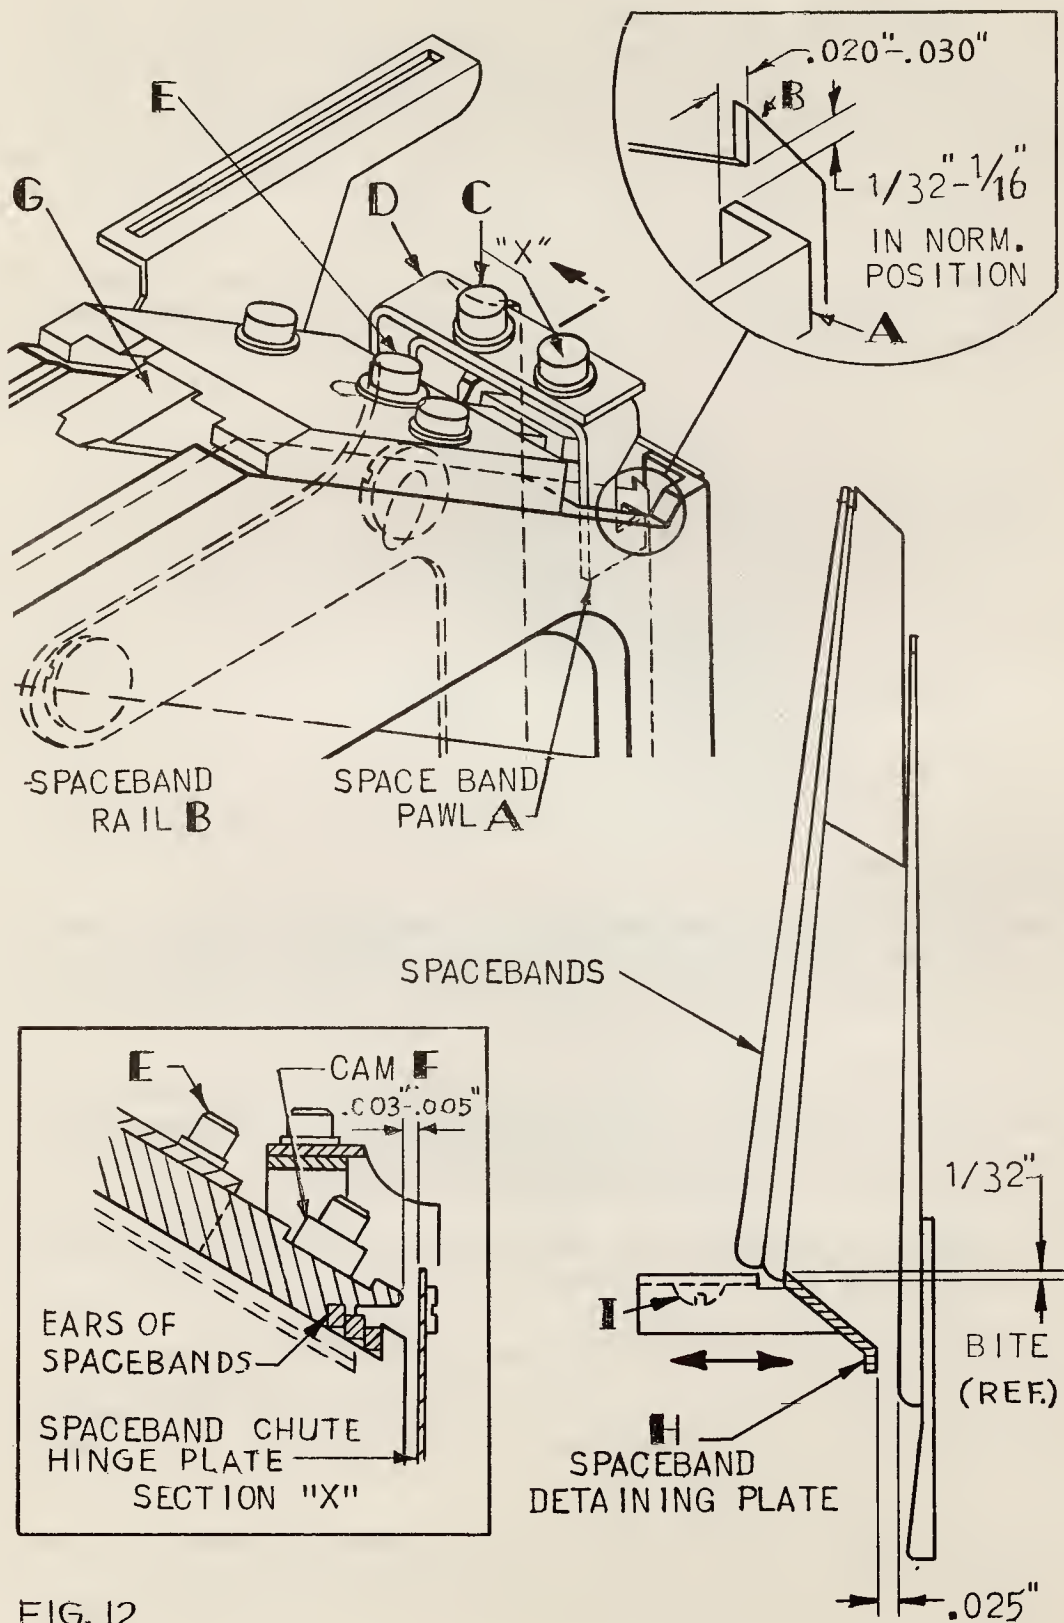

FIG. 12
(Q) Release of Spacebands from Spaceband Box (Fig. 12)
1. The height of the spaceband pawls (A) should be set so that each pawl is 1/32 - 1/16" below the spaceband rails (B). This will insure the pawls lifting the spaceband over the rails so that it can drop into place in the assembled line.